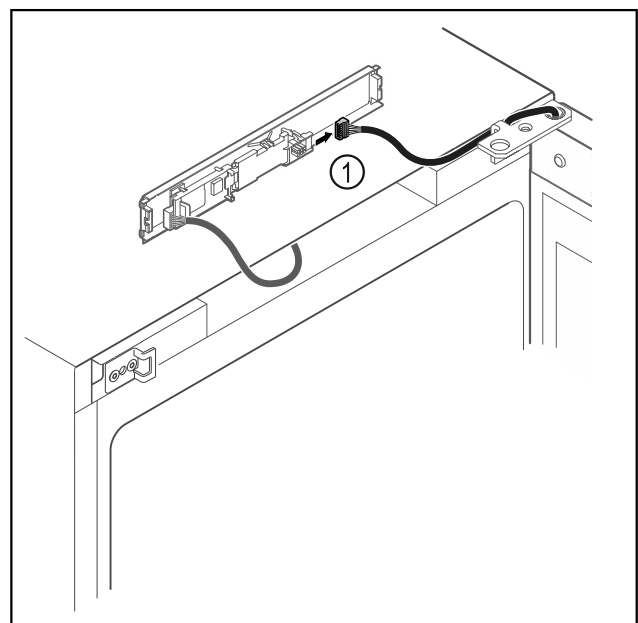

Fig. 19
- ▶ Disconnect the plug Fig. 19 (1) from the circuit board.